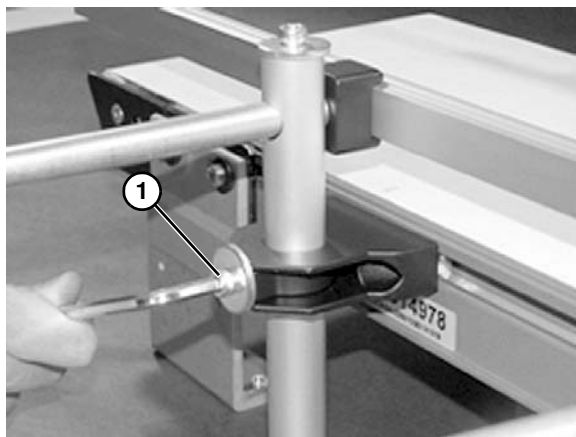

Figure 23
7. Adjust rail height with lower screw (**Figure 23, item 1**).